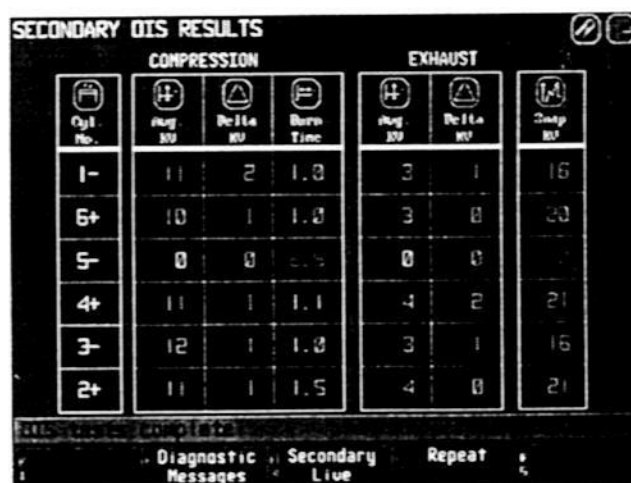

Figure 3-25
2. Follow the screen prompt (run the engine at idle or cranking speeds) and “snap” the throttle. The analyzer measures the burn time, various KV readings and circuit gap, and then displays the results for each cylinder on the chart on the screen shown in Figure 3-25.
Secondary data is collected from the DIS system. After a few seconds, the display screen reports the following KV readings for the Compression Firings and Exhaust Firings of each cylinder (see Figure 3-25):